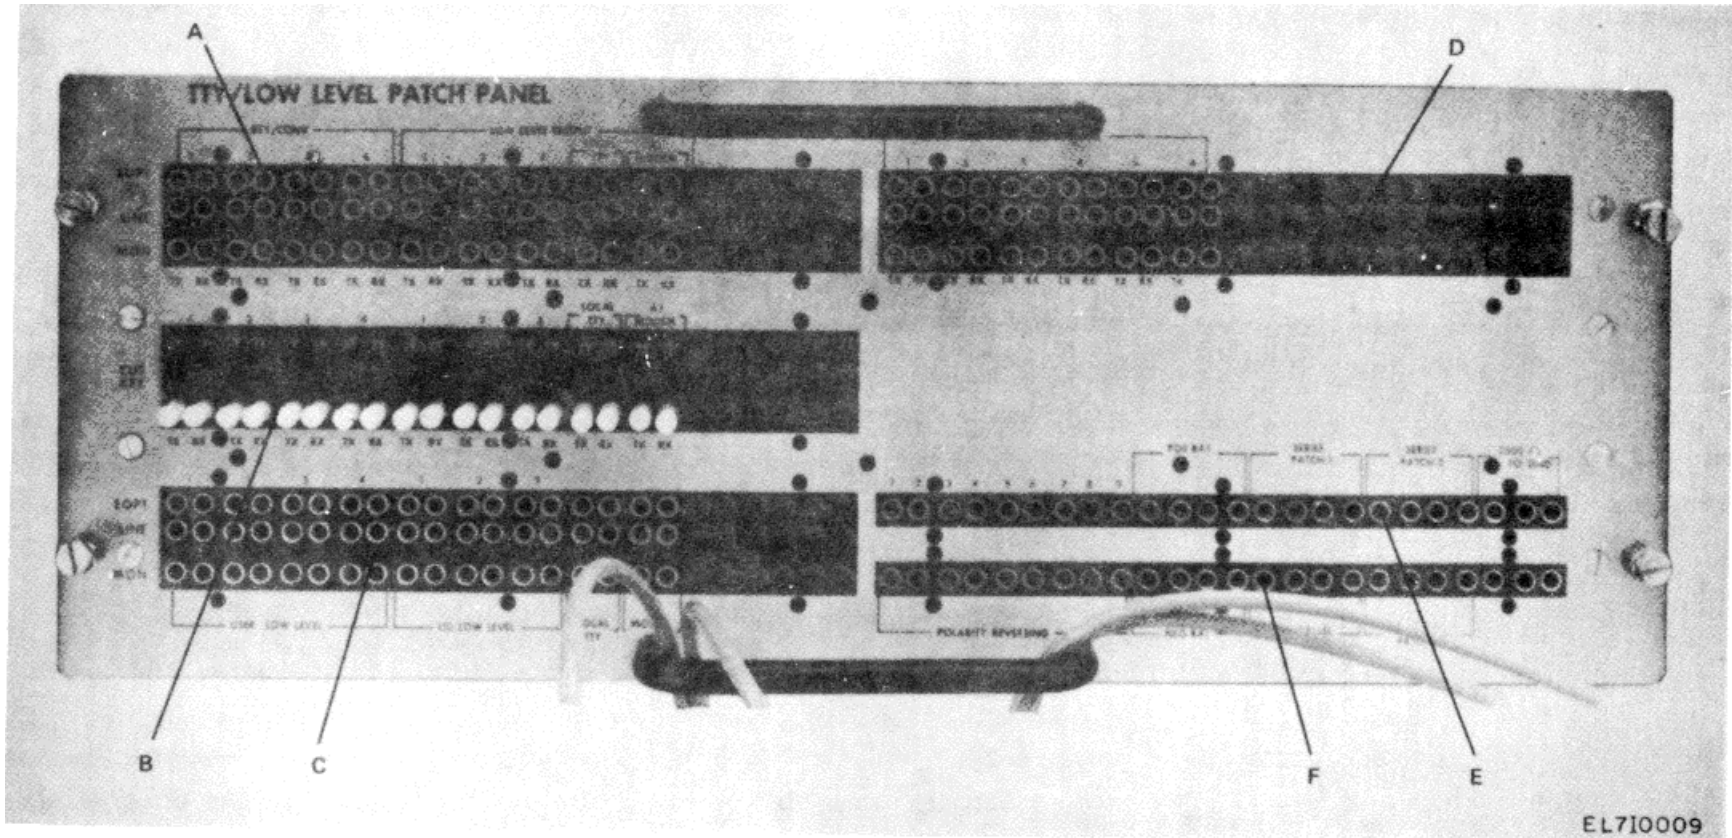

Figure 3-3. TTY/Low Level Patch Panel, Front View.
a. Replacement of Jack Sets on Subpanel D (fig. 3-3).
(1) Remove the TTY/low level patch panel (patch panel) as outlined in paragraph 320 above.
(2) Place the patch panel front down with subpanel D towards the front.
(3) Remove the two screws holding the defective jack set to the rear of the panel.
(4) Lift the defective jack set upward until the tubes clear the sleeves.
(5) Twist the jack set outward from the panel.
(6) Tag the wires connected to the jack set.
(7) If wires are wrapped to the connectors, cut the wires as close as possible to the connectors. If wires are soldered to the connectors, unsolder them.
(8) Prepare the wires for soldering and using good soldering practices, solder the wires to the connectors on the replacement jack set.
(9) Twist the jack set inward and lower the tubes into the sleeves.
(10) Insert and tighten the two mounting screws to secure the jack set to the rear of the panel.
(11) Place the patch panel back into the rack using replacement procedures in paragraph 322 below.
b. Replacement of Jack Panels on Subpanels E or F (fig. 3-3).
(1) Remove the communication TTY/low level patch panel from the rack by using the removal procedures in paragraph 320 above.
(2) Remove the 12 screws from the front of the patch panel that hold subpanels E and F to the frame.
(3) While holding the subpanels in place, turn the patch panel face down with the E and F subpanels towards the front.
(4) Reach under the front panel and push upwards on the E and F subpanels and free them from the patch panel and note which subpanel is E and which is F (5) If necessary, spread the two subpanels apart and remove the mounting screw holding the defective jack to the back of the subpanel.
(6) Lift the defective jack from the subpanel until the tube clears the sleeve and twist the jack outwards.
(7) Tag the wires connected to the jack connectors.
(8) If the wires are connected by wire wrapped connections, cut the wires as close as possible to the jack connectors. If the wires are soldered, unsolder them.
(9) Prepare the wires for soldering and, using good soldering practices, solder them to the replacement jack connectors.
(10) Twist the jack inward and slip the tube into the sleeve.
(11) Insert and tighten the mounting screw to secure the jack to the rear of the subpanel.
(12) Lift the E and F subpanels back into their position in the front frame of the patch panel.
(13) While supporting the E and F subpanels, set the patch panel upside down with its face forward.
(14) Replace the 12 mounting screws into the front of the patch panel and secure the subpanels into place.
(15) Replace the patch panel back in the rack by using the replacement procedures in paragraph 322 below.
c. Replacement of Jack Sets on Subpanels A and C (fig. 3-3).
(1) Remove the communications TTY/low level patch panel from the rack as outlined in paragraph 320 above.
(2) Remove the 24 screws on the front panel which hold subpanels A, B, C, and D to the patch panel frame.